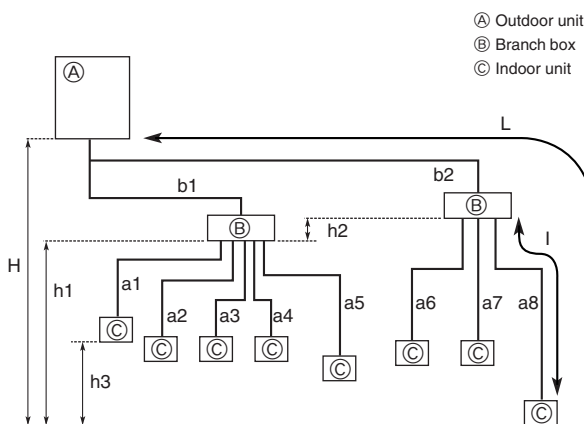

Fig. 5-1
5.2. Pipe length and height difference (Fig. 5-1)